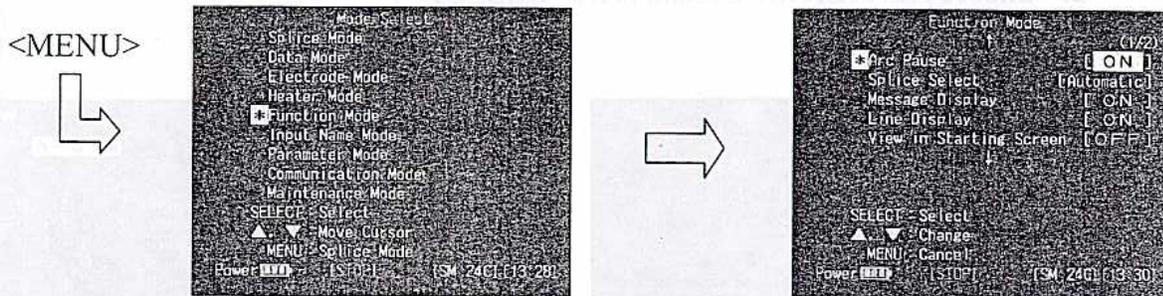

Figure 54. Activating Arc Pause
1. Referring to Figure 54, from the FUNCTION MODE menu choose ARC PAUSE and press <SELECT>.